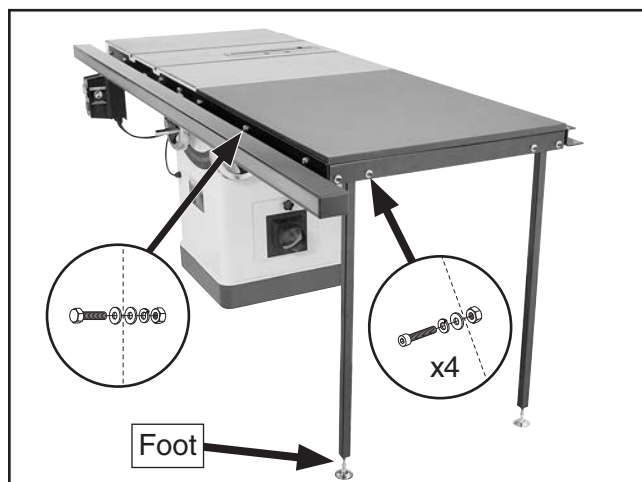

Figure 25. Model G0691 extension table installed.
1. While an assistant holds the extension table between the front and rear rails, fasten the extension table to the rails with (6) M8-1.25 x 30 hex bolts, (12) 8mm flat washers, (6) 8mm lock washers, and (6) M8-1.25 hex nuts.
2. Thread the feet into the legs with the (2) M8-1.25 x 60 hex bolts, place the legs under the table, and thread the feet out until the top of each leg is against the underside corner of the table.
3. Use the (4) M8-1.25 x 20 cap screws, 8mm lock washers, flat washers, and M8-1.25 hex nuts to secure the legs to the end of the extension table, as shown in **Figure 25**.